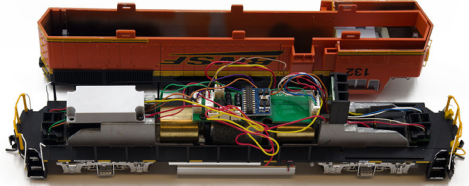

Figure 1: Remove loco shell
1. Carefully remove the locomotive shell of your locomotive equipped with 21MTC plug interface. (**Figure 1**) Note the orientation to the frame for correct re-installation. Arrange internal wires to expose the jumper board in the locomotive.